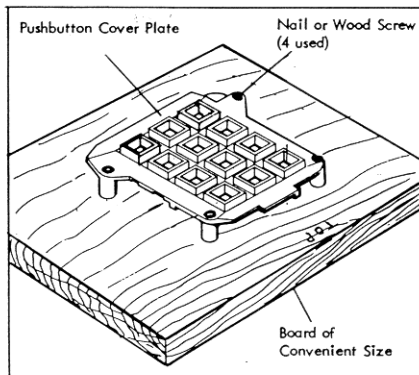

Figure 4. Holding fixture
- (1) Place dial face down in a fixture, (See figure 4).
- (2) Rotate the Spring Cover (31) clockwise until it clears the Circuit Board (35). Lift upward to remove it from the screw threads if desired.
- (3) Remove the two locknuts (35) and the two screws (34) that secure the Circuit Board to the Mounting Plate (24).
- (4) Remove the two screws (26) and the two stud-type screws (25) that secure the Mounting Plate to the Cover Plate (2). Lift off the Circuit Board and Mounting Plate group.
- (5) Lift off the Actuator Slide (10) and Pushbutton Frame (9).
- (6) Remove Cranks and Pushbuttons as required.
- (1) Place the Cover Plate (2) face down on the fixture shown in figure 4.
- (2) Place Pushbuttons in proper holes in Cover Plate.
- (3) Place the Horizontal (Row) Cranks in position in the Cover Plate. The arm which contacts the Actuator Slide (10) must be toward the assembler's left and must point upward. The round sections of each crank must ride in appropriate slots.
- (4) Place the Vertical (Column) Cranks in position.